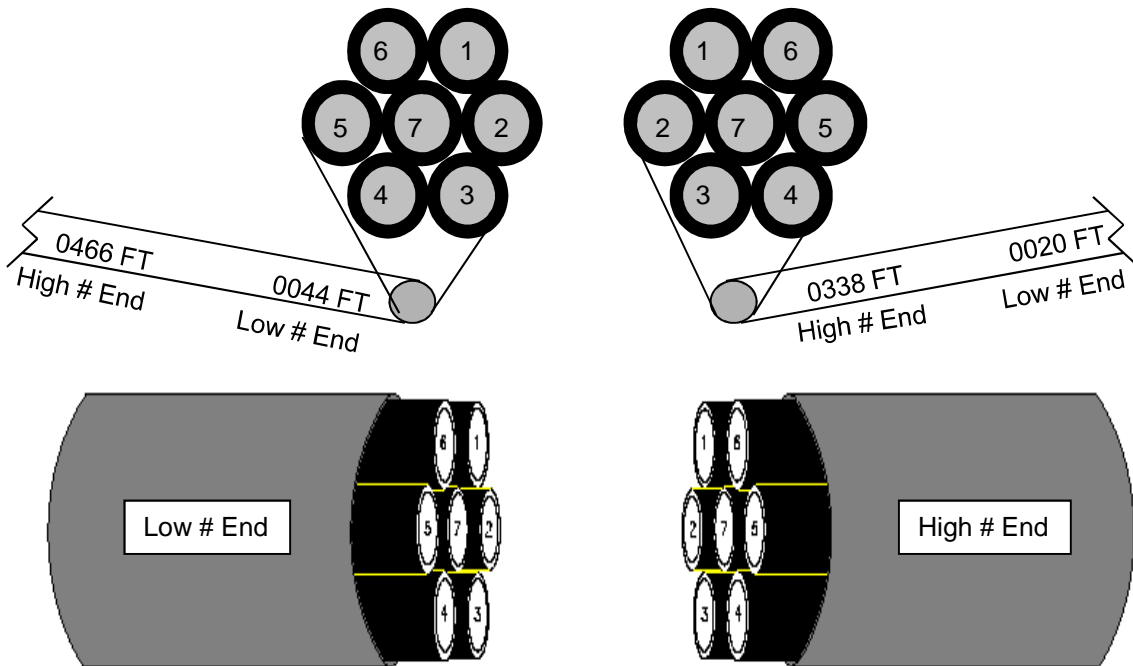

Figure 8
12.4 If the Low # End of one tube cable will mate to the High # End of the other tube cable, when coupled, the tubes will not be crossed or twisted and the desired straight-through connection can be made. (A Low-to-High or High-to-Low condition is good.) **See Fig. 8.**